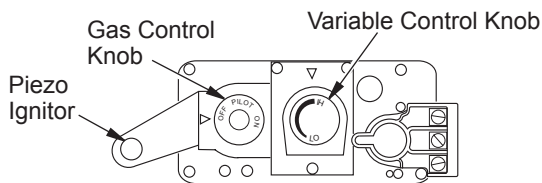

Figure 45 - Control Valve
- Turn gas control knob counterclockwise ↺ to "PILOT" (see Figure 45).
- Push in gas control knob all the way and hold. Immediately light the pilot by repeatedly depressing the piezo spark ignitor until a flame appears. Continue to hold for about one (1) minute after the pilot is lit. Release gas control knob and it will pop back. Pilot should remain lit. If it goes out, repeat steps 5 through 8.